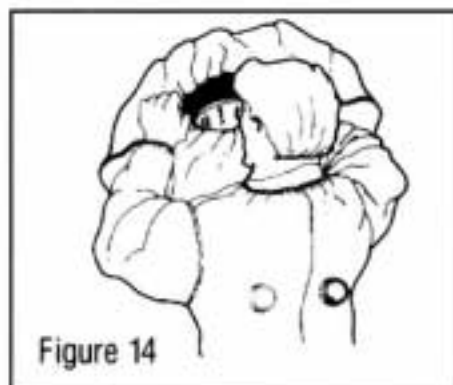

Figure 14
10. Turn parka sleeves inside out. With assistance from your co-worker, insert chin first into respirator hood (see Figure 14).